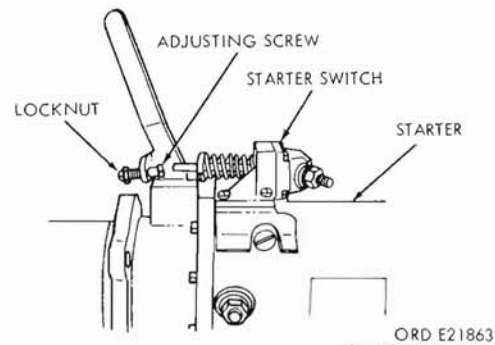

Figure 148. Starter switch assembly - multifuel
b. Adjust the starter control as shown in (1) through (7) below.
- (1) Loosen the locknut and turn the adjusting screw completely in (fig. 148).